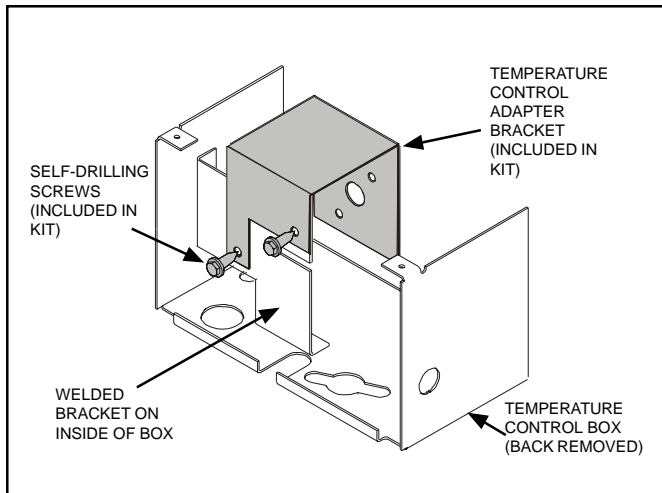

Figure 2. XL-2/XL-3 and Mark V Temperature Control Bracket Assembly for new style thermostat (viewed from rear of box with back plate removed).
1. Mount the temperature control adapter bracket to the bracket that is welded to the inside of box. Align the holes on the new bracket to the holes on the welded bracket and secure with the two self drilling screws (provided in the kit). (See Fig. 2.)